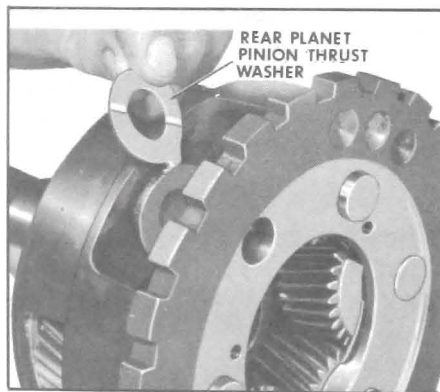

Figure 5-278
9. Install the rear planet pinion thrust washer. Oil groove must be toward pinion gear. See Figure 5-278.